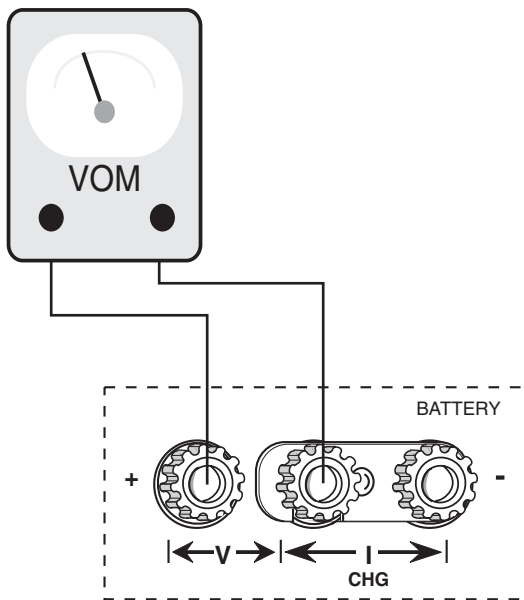

Figure 8.
1. From the battery test terminals on the control front panel measure the battery voltage (see Figure 8) . If battery voltage is below 24-volts, the battery is either low on charge or is faulty. The battery should be removed for recharging and retested before returning to service.